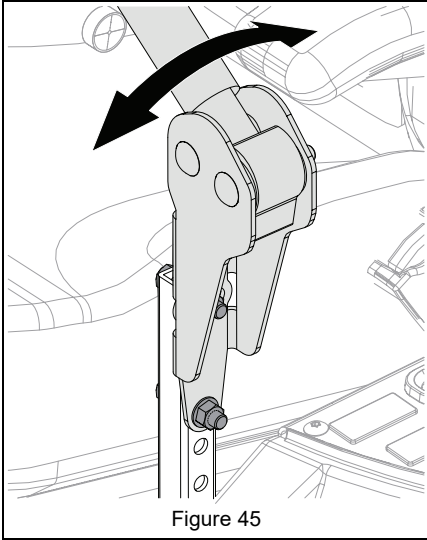

Figure 45
8. Loosen mounting hardware, align levers and tighten hardware. See Figure 45.